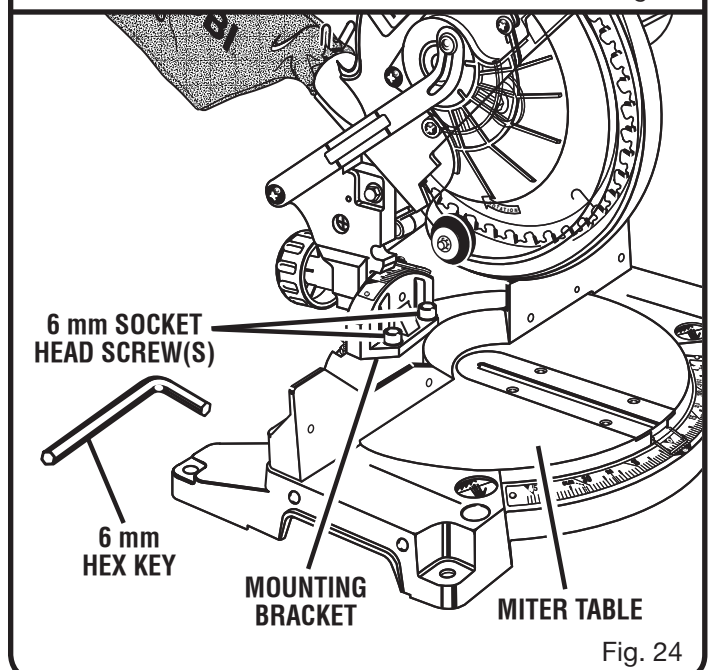

Fig. 24
- Using the 6 mm hex key provided, loosen the socket head screws that secure the mounting bracket to the miter table. See Figure 24.